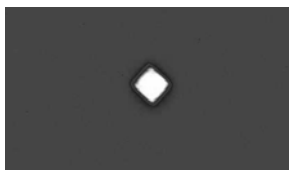

Figure 9.10.3 Image of direct X-ray Beam
9. Repeat points 8-10 until the image from the CCD looks like Figure 9.10.3. At this point we are imaging the direct x-ray beam without use of the optics. The optic is completely mis-aligned.